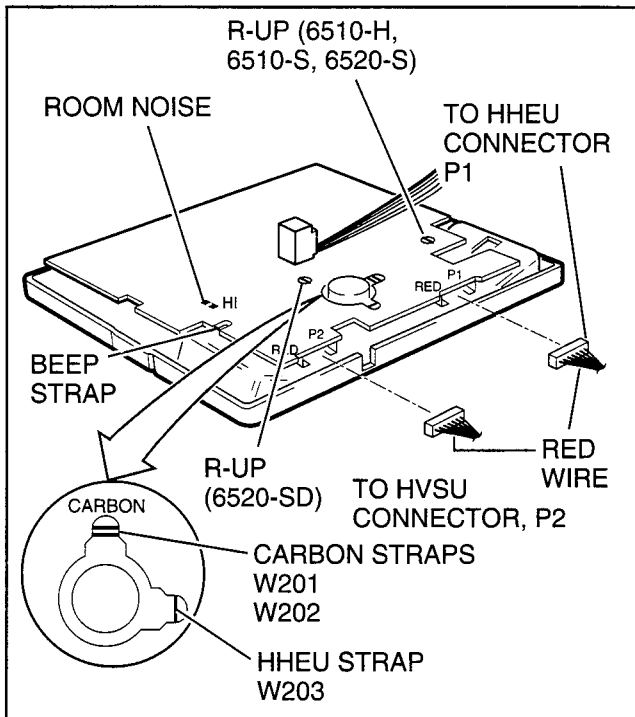

FIGURE 6-13
- 3) Connect the HVSU2 wire plug to the **P2** connector on the printed circuit board (PCB) in the telephone (Figure 6-13).
- 4) Connect the HVSU/HVSI subassembly wire plug to the **P2** connector on the electronic telephone PCB (Figure 6-13).
- 7) Connect the HHEU subassembly wire plug to the **P1** connector on the electronic telephone PCB (Figure 6-13).
- 8) Cut the **HHEU** strap on the telephone PCB (Figure 6-13).
- 2) Refer to Figure 6-13, and locate the **CARBON** straps, **W201** and **W202**. Cut both straps.
- 2) Locate and cut the **BEEP** strap on the telephone printed circuit board (PCB) (Figure 6-13).
- 2) Locate the **ROOM NOISE** switch on the printed circuit board (PCB) inside the telephone, and push it carefully to the **HI** (high) position (Figure 6-13).
- 2) Locate the **R-UP** strap on the printed circuit board (PCB) inside the telephone, and cut it (Figure 6-13).